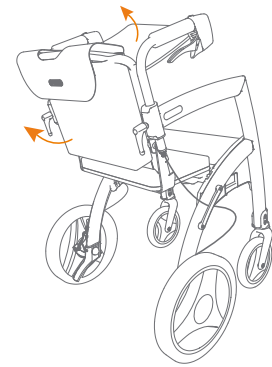
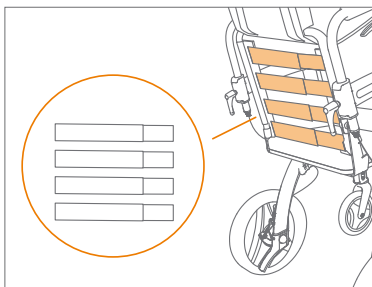

Figure 45: Clear adjustment straps.
Figure 46: Four adjustable straps.
- b. Pull up the bag of the wheelchair package and the backrest cover from the bottom (**Figure 45**). The adjustment straps are now clearly visible (**Figure 46**).